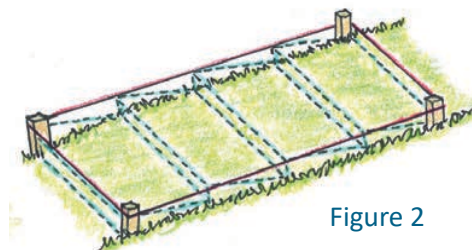

Figure 2
STEP 1 – Stake perimeter. Stake out the perimeter of the stairway by driving a stake into the ground at each corner of the stairway and stretching string between them (Figure 2).
STEP 2 – Mark areas to be excavated. Determine the areas that need to be excavated for each step. Using a measuring tape and starting from the string at the bottom of the slope, measure and mark the depth of each step until you reach the string at the top of the slope. Use spray paint, sand or flour to mark the depth of each step (Figure 2).